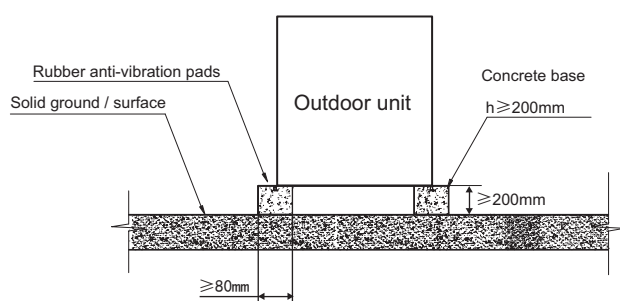

Fig. 6-4 Front view of base structure
- 4) A typical concrete base design is shown in Fig. 6-4. A typical concrete specification is 1 part cement, 2 parts sand and 4 parts crushed stone with steel reinforcing bar. The edges of the base should be chamfered.